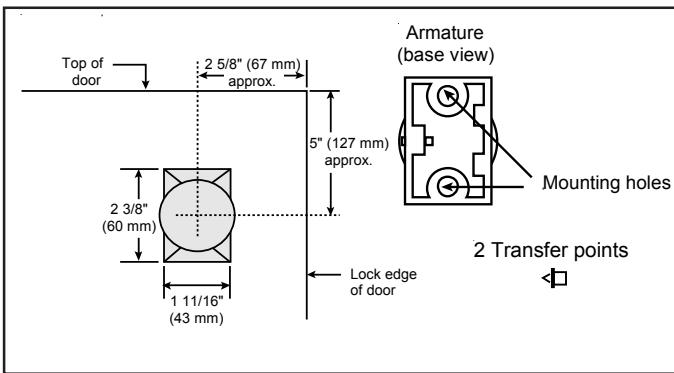

Figure 4. Mounting the Armature Assembly
**NOTE:** Armature assembly must be mounted vertically (Figure 4) to obtain correct alignment with the electromagnet.
2. Place the transfer marking points in the armature mounting holes (Figure 4).